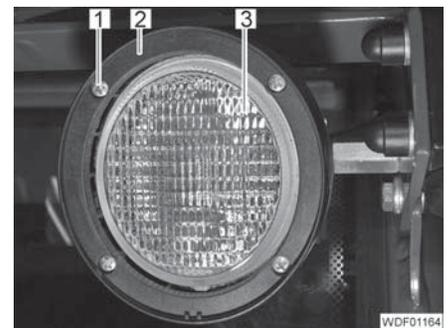

Fig. 469 Lamp glass attachment
- Unscrew the 4 screws (Fig. 469,1).
- Remove the frame (Fig. 469,2).
- Rotate the lamp glass (Fig. 469,3) into the desired position.
- Place the frame (Fig. 469,2) in position.
- Tighten the 4 screws (Fig. 469,1).